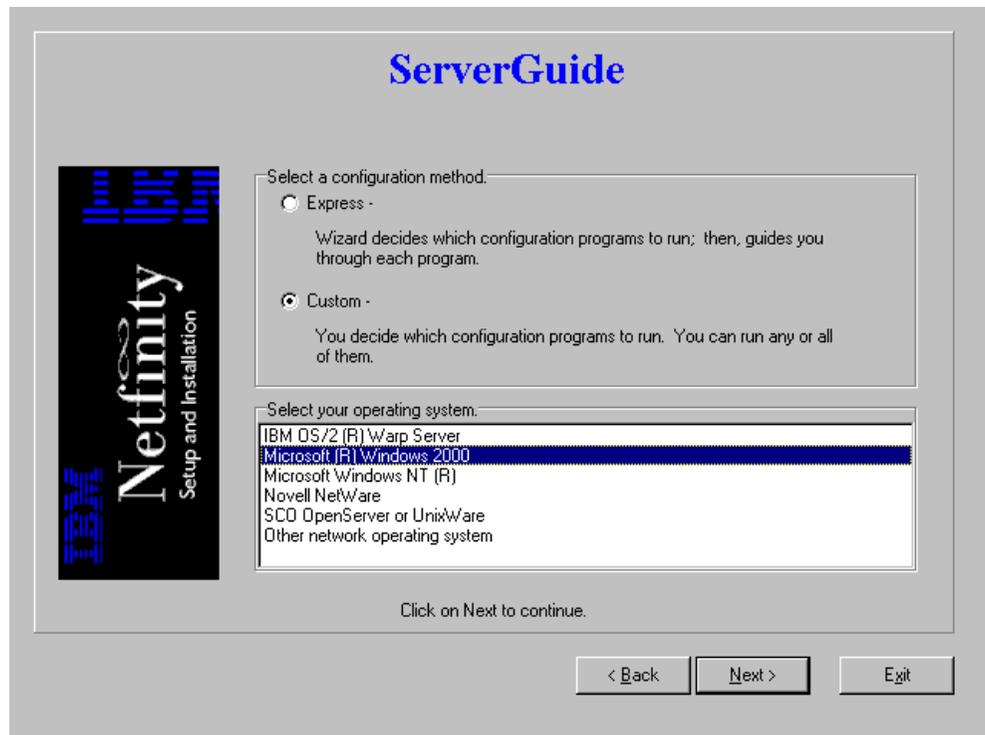

Figure 34. Select the configuration method and operating system
9. You will be presented with a window similar to Figure 34: